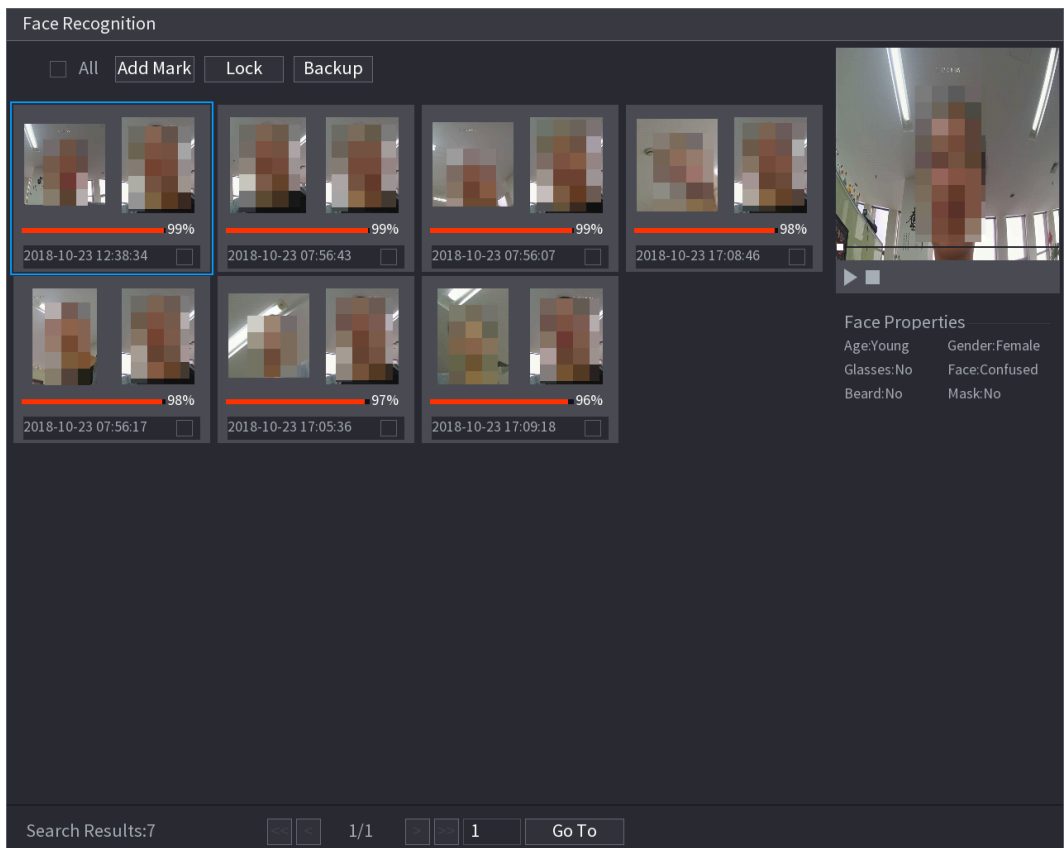

Figure 5-162
**Step 5** Select the face picture that you want to play back. See Figure 5-162.